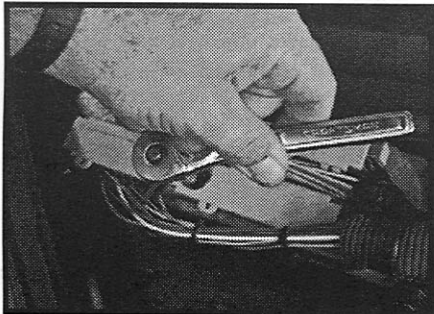

Figure 4
4. Remove the BLUE wiring harness closet to the firewall from the ECM (computer) by turning the center bolt on the harness counter clockwise. This will slowly draw the harness away from the factory computer (see Fig. 4).